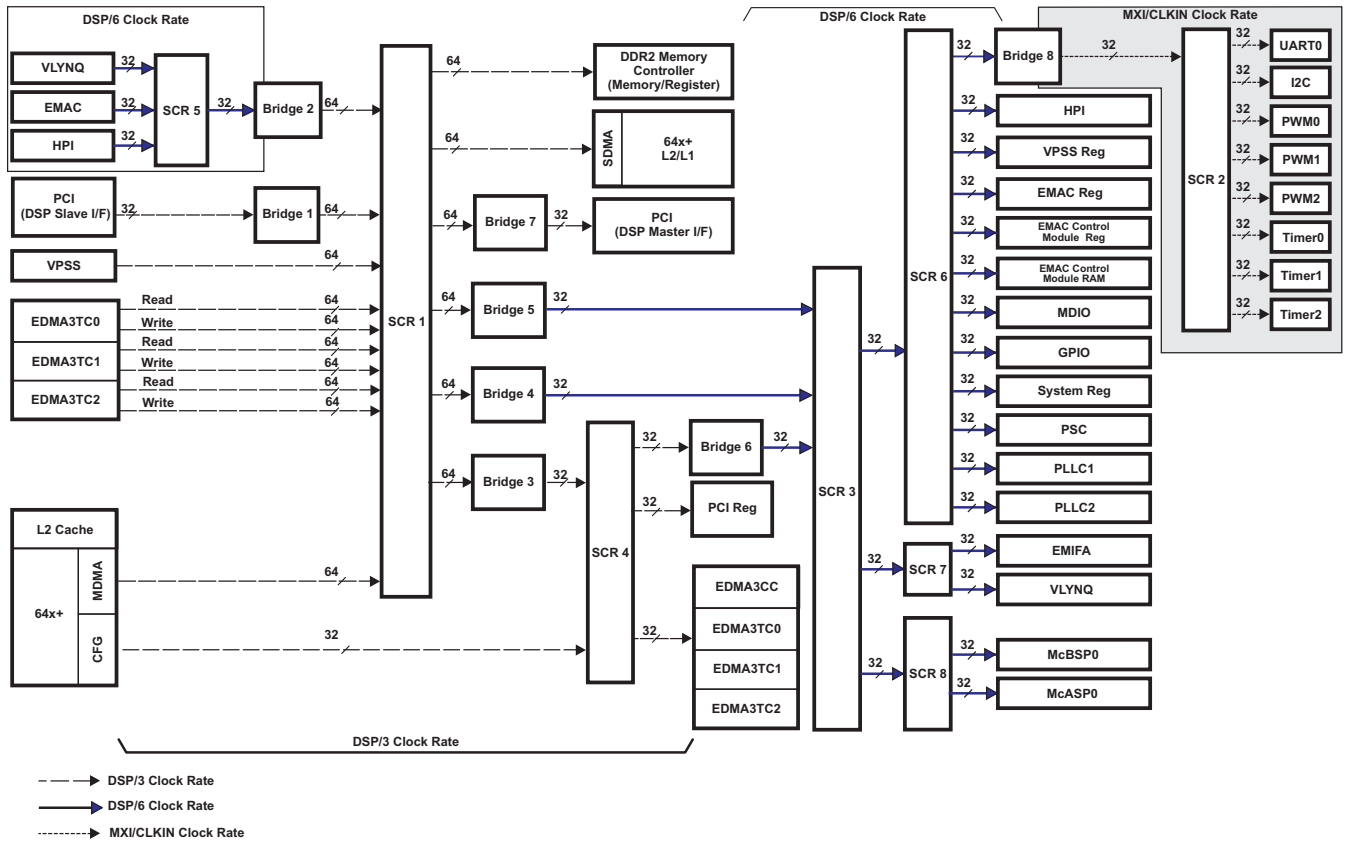

Figure 4-1. System Interconnect Block Diagram
On the DM6433 device, the C64x+ Megamodule, the EDMA3 transfer controllers, and the system peripherals are interconnected through a switch fabric architecture (see Figure 4-1). The switch fabric is composed of multiple switched central resources (SCRs) and multiple bridges. The SCRs establish low-latency connectivity between master peripherals and slave peripherals. Additionally, the SCRs provide priority-based arbitration and facilitate concurrent data movement between master and slave peripherals. Through an SCR, the DSP subsystem can send data to the DDR2 Memory Controller without affecting a data transfer between the EMAC and L2 memory. Bridges are mainly used to perform bus-width conversion as well as bus operating frequency conversion. For example, in Figure 4-1, Bridge 6 performs a frequency conversion between a bus operating at DSP/3 clock rate and a bus operating at DSP/6 clock rate. Furthermore, Bridge 5 performs a bus-width conversion between a 64-bit bus and a 32-bit bus.
Figure 4-1 displays the DM6433 system interconnect block diagram. The following is a list that helps in the interpretation of this diagram:
- A peripheral may have multiple instances shown in Figure 4-1 for the following reason: